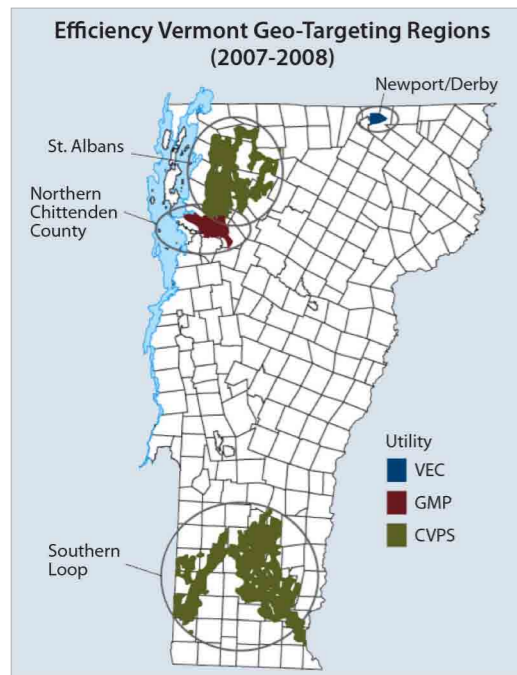

Figure 2: ICF's forecast of DER penetration
DER is likely to become much more pervasive. ICF forecasts increasing levels of DER to reach the marketplace in the next few years (see Figure 2). Falling capital costs of certain categories of DER such as solar PV and policy initiatives for CHP, EE, Electric Vehicles (EV), and other applications are causing an unprecedented shift in terms of the balance between the nation's central and distributed generation resources.